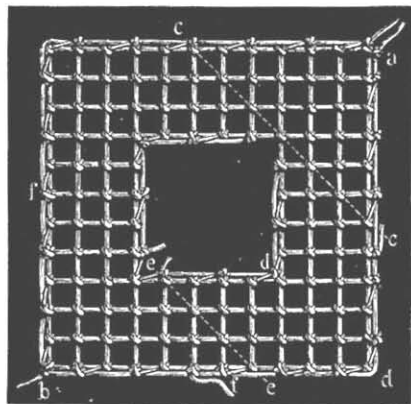

Fig. 9.
**How to make the corners of a strip.** — This is done by decreasing as usual on the inner side, then making a new loop on the last loop so as to form the angle. You then go on making the strip, but with this difference, that you make the increases on the inside and the decreases on the outside. (See also the directions for the square frame of net, fig. 9.)
**Square frame of net** (fig. 9). — After casting on the loops as for an ordinary piece of net, letter *a*, increase them to the number of eight, then make four loops, skip the last four of the preceding row, turn, make five loops, increase at the last one, make four loops and decrease at the last, turn, make five loops, increase at the last one, turn, make four loops, decrease at the last one, then increase at the same loop, turn, make four loops and decrease at the last one, turn, make five loops, increase at the last, turn, make four loops, decrease at the last, turn, make five loops, increase at the last one, cut the thread.